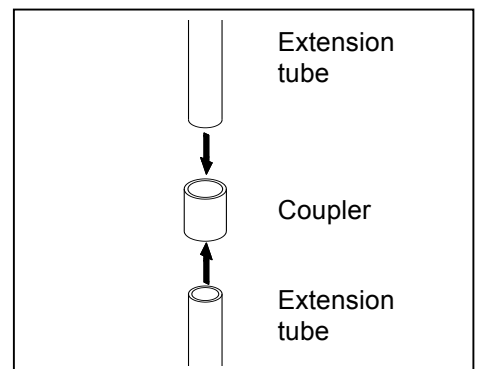

**Fig. 5**
5. Place the filter box top on top of the filter box bottom. It should snap closed. Fig. 5